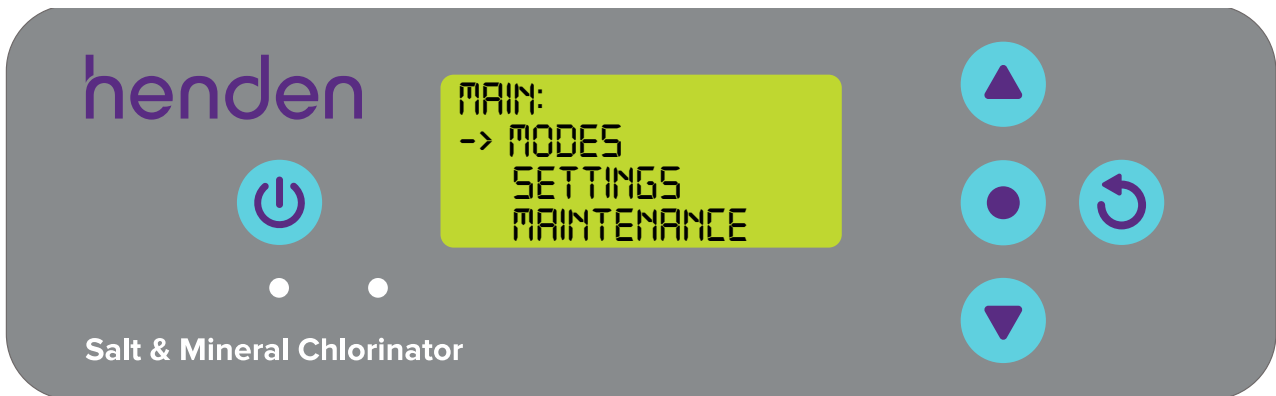

Figure 9.22
- From the **HOME SCREEN**, press the  **menu/setting select** button and go into MODES (refer Figure 9.22).